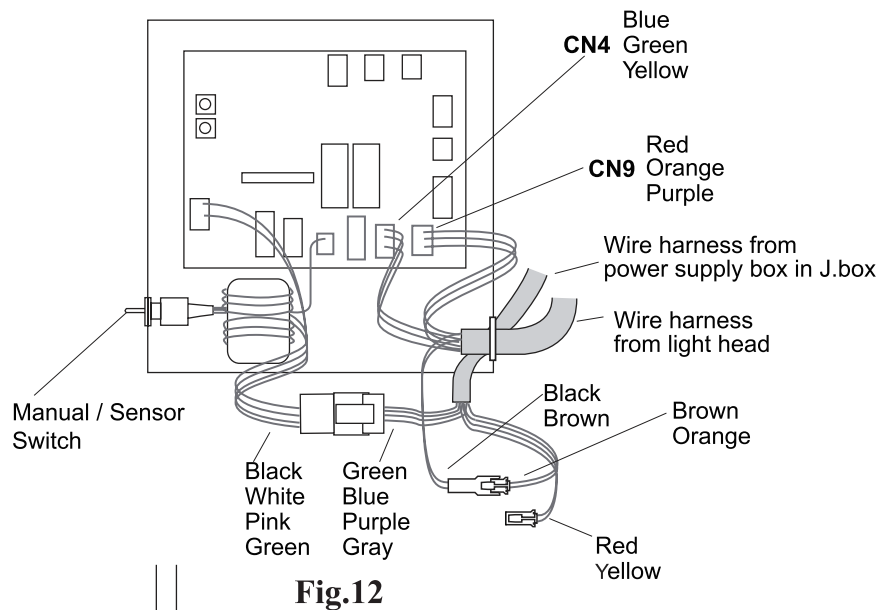

Fig.12
- (6) Open the control box and connect the connectors with the wire harness from the light head and the other wire harness from the power supply box. Follow the drawing below (Fig.12).